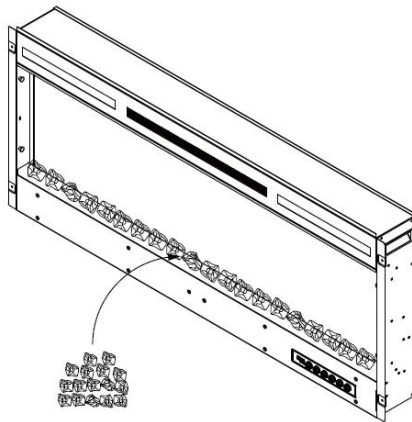

Figure 1.(Crystal medias)
- C. Carefully place crystal embers into the bottom tray on the front of the appliance as illustrated. Apply an even layer from side to side. Figure1.